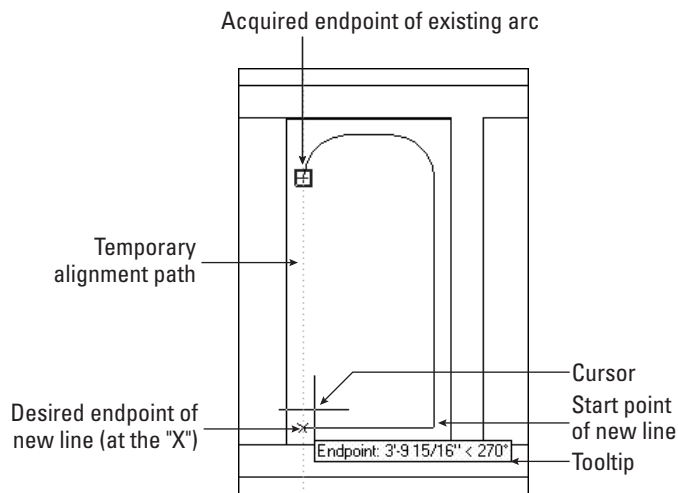

Figure 4-26: With the endpoint object snap active and ORTHO on, AutoCAD displays temporary alignment paths based on the acquired point.
3. Move the cursor away from the object snap toward your desired point. AutoCAD displays temporary alignment paths as you move the cursor over available drawing paths, as shown in Figure 4-26. If ORTHO is on, AutoCAD displays only horizontal and vertical paths. If POLAR is on, AutoCAD displays polar paths based on the polar angle settings, as explained earlier in this chapter.